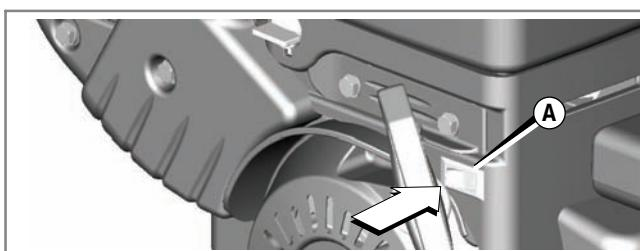

Figure 9
1. Move the stop switch (A), if equipped, to the stop position (Figure 9).